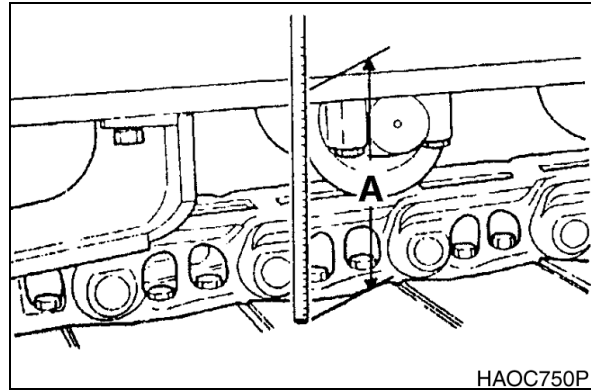

Figure 2
- Measuring the distance (A, Figure 2) between the bottom of the side frame and the top of the lowest crawler shoe. Recommended tension for operation over most types of terrain is 320 - 340 mm (12.60 - 13.38 in.)